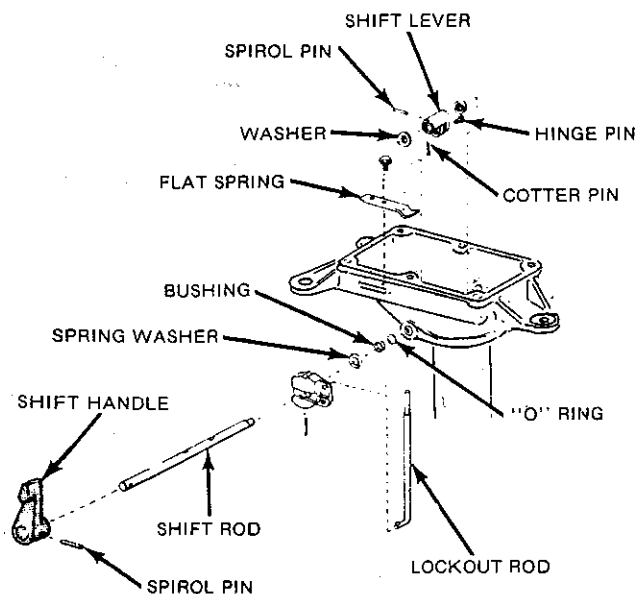

Figure 29.
- M. To remove shift components, refer to Figure 29 and proceed as follows:
- (1) Disconnect column shift rod from shift lever by removing cotter pin and hinge pin.
- (2) Drive out spirol pin in shift lever.
- (3) Remove flat spring.
- (4) Catch shift lever and washer while removing shift handle and rod.
- (5) Drive out spirol pin and remove cam.
- (6) Drive out hinge pin and remove shift handle.
- (7) If necessary, drive out bushings in column and remove "O" ring.